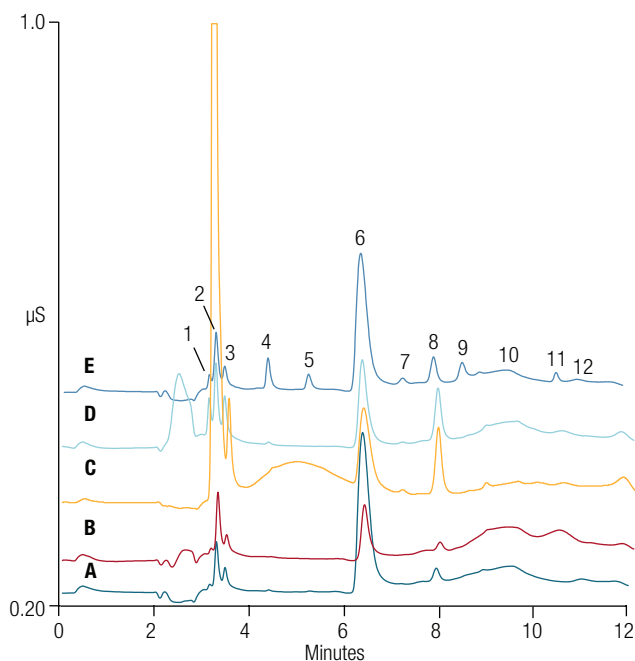

Figure 6. Comparison of trace anions in system blanks versus a Seven Anion Standard 1 injection.
In all trace ion applications, the system and water blanks can often limit the detection limits of the analytical method and therefore are an important parameter when assessing the method qualification. Figure 6 compares a A) DI water injection, B and C) no-injection blank before and after injecting sodium hydroxide samples, D) transfer water blank (Dionex AXP Auxiliary Pump-purified DI water), and E) Standard 1. Sulfate and fluoride are detected in all blank samples, thereby limiting the detection limit to 3 $\times$  the average contamination. Fluoride and sulfate contamination were more evident after analyzing the sodium hydroxide samples, implicating higher extractables from the hydroxide and implying that an additional pretreatment with hydroxide could reduce the contamination. Chloride was also detected at a low level, sub  $\mu$ g/L, in the transfer water and no-injection blanks. However as with most trace ion applications, lower ionic contamination can be achieved by continuing to run the system.
MDLs were determined based on seven replicate injections of Standard 1, multiplying the mean concentration, the reproducibility (SD), and the Student  $t$ -test factor of 3.142. The calculated MDL results are summarized in Table 4. Each anion had a MDL  $< 1\ \mu$ g/L with the exception of fluoride and sulfate. A standard MDL calculation method can not be used for these two anions because they were found in the system blanks (Figure 6). In these cases, the reported MDL is 3 $\times$  the average concentration found in the blanks. MDLs will vary from lab to lab depending on water quality, lab environment, and the samples. However, it is notable that the hydroxide sample injection caused increased ionic contaminants to leach out into the following blank. Previously, a precleaning step with strong base has been effective in lowering MDLs for fluoride and sulfate in similarly strong base samples.15 The simplest approach is to load multiple hydroxide samples through the neutralizing suppressor while directing the flow out of the neutralizing suppressor to waste.